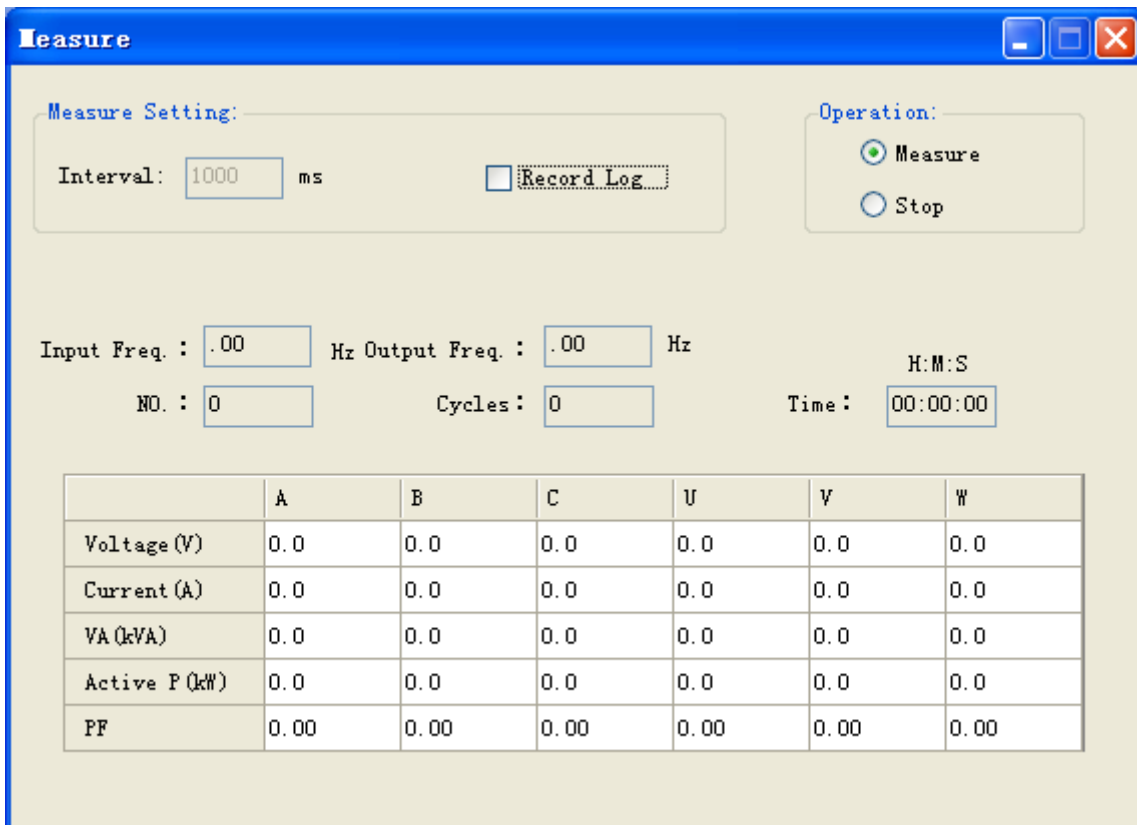

Fig. 5-14 Menu of “Measure” under remote control
(4) In the interface of “Main software UI”, click on 【Measure】 menu enter the interface of “Measure”, as shown in Fig. 5-14: